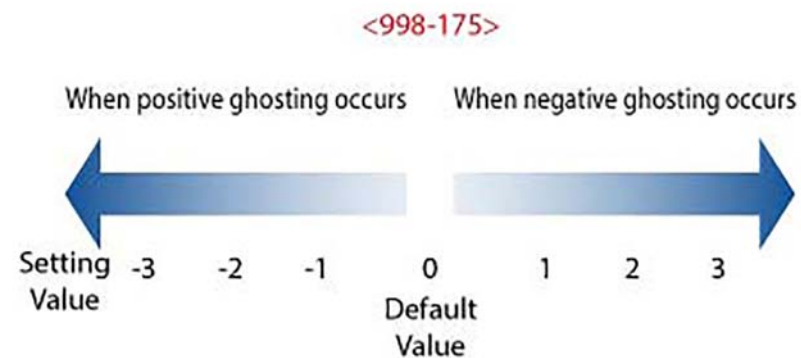

Figure 2 NVM 998-175 setting
2. Refer to Figure 2. Enter dC131. Perform the steps that follow: